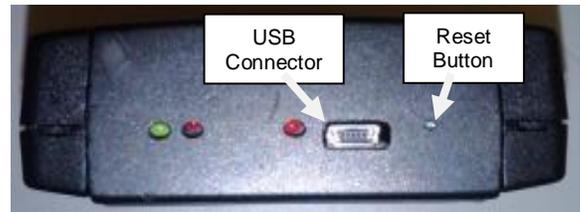

Fig. 6
2. Press and release the Reset button (see Fig. 6) once using a paper clip or similar tool. The Green LED will turn off, and the Red LED will illuminate for 1-2 seconds while a ZigBee network is being formed. It may take up to two minutes to form the network. Do not press the Reset button again until the cycle has completed.